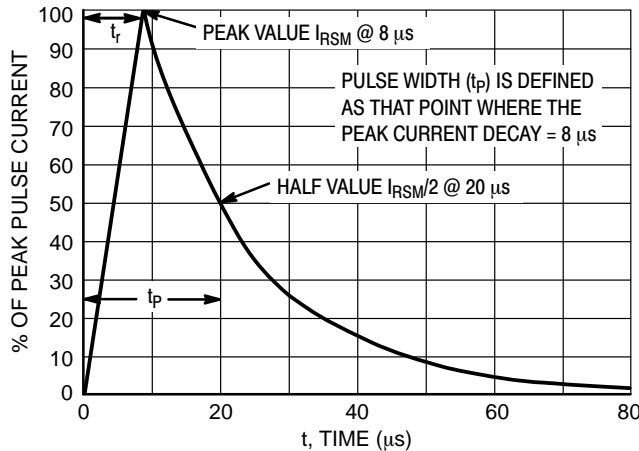

Figure 12. 8 X 20 μs Pulse Waveform
- Non-repetitive current pulse at $T_A = 25^\circ\text{C}$, per IEC61000-4-5 waveform. (See Figure 12)